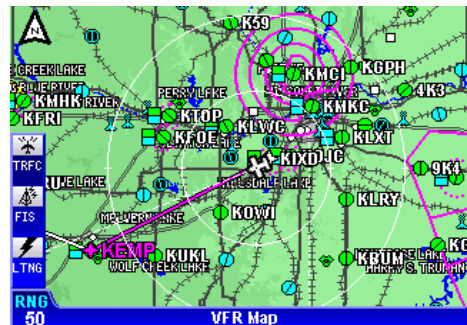

Figure 1-153
3. Press the **OK** Softkey to confirm the deletion. The map will now display the active flight plan in Leg Mode as shown on Figure 1-153.